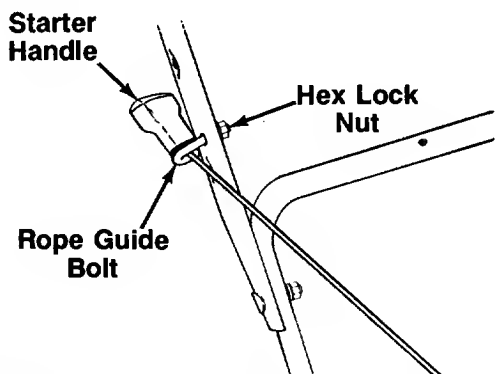

FIGURE 5.
3. Place the rope guide around the starter handle, so the rope guide bends downward as shown in figure 5.